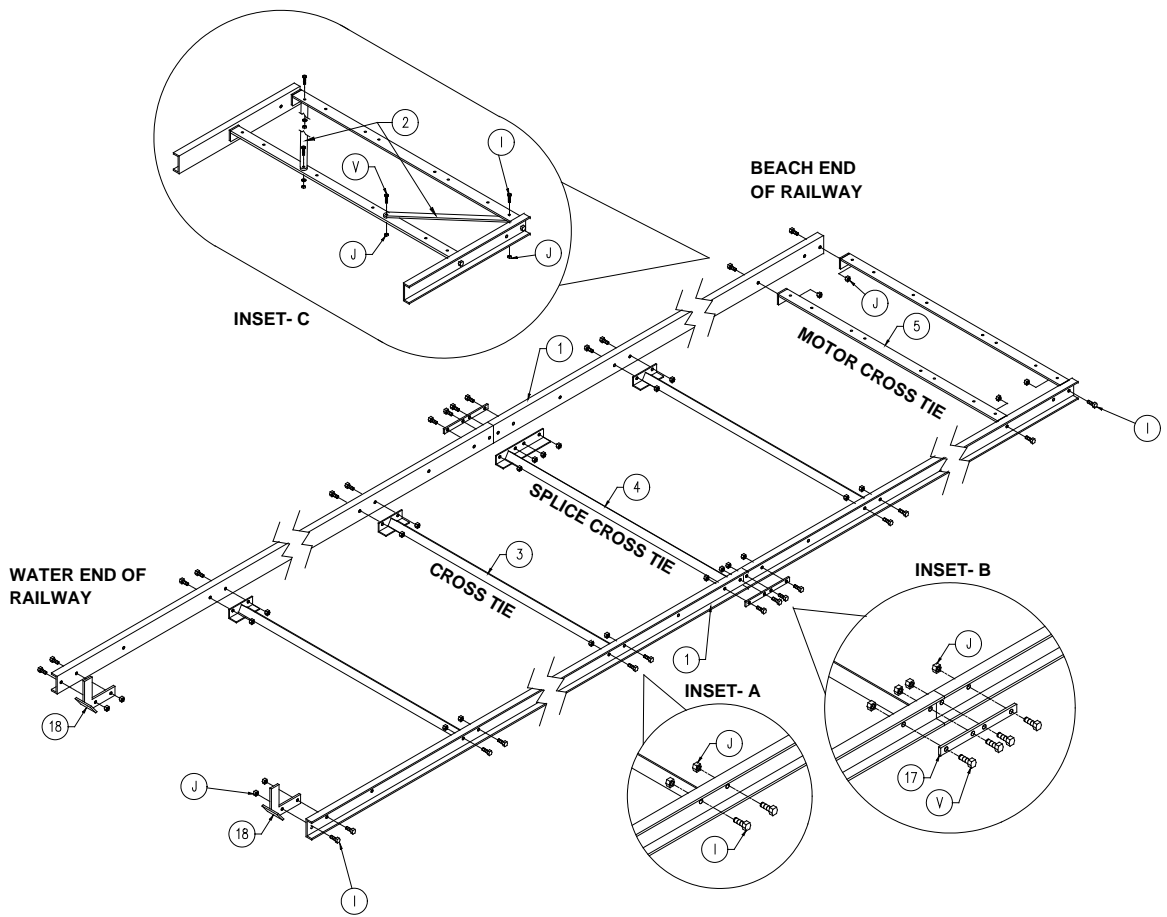

Figure 3-1.
1. Refer to **Figure 3-1**. Position the track channels with the flanges facing outward.
7. Refer to **Figure 3-1**. Join the two preassembled track sections using the track splice cross tie and splice plate as shown in **Inset B**.